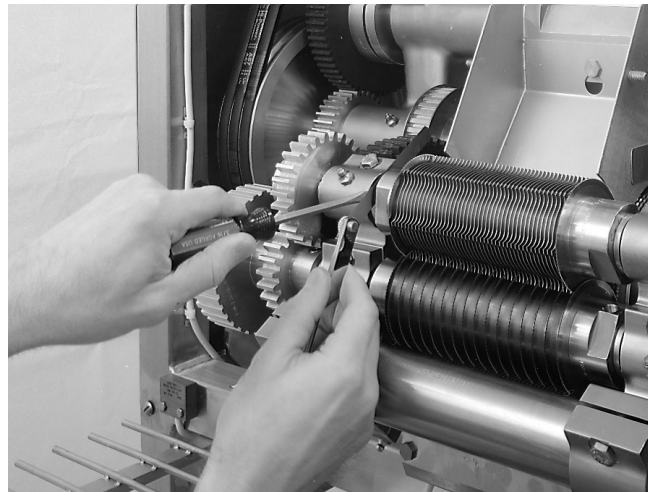

Figure 31 — Setting clearance between spindle and bearing
2. **With the tip of a screwdriver behind the bearing thrust cap, move spindle, both bearings, shaft and feeler gauge until centered.** Tighten pinch bolts to 5 foot pounds (6.78 newton meters) and remove feeler gauge (Figure 31).